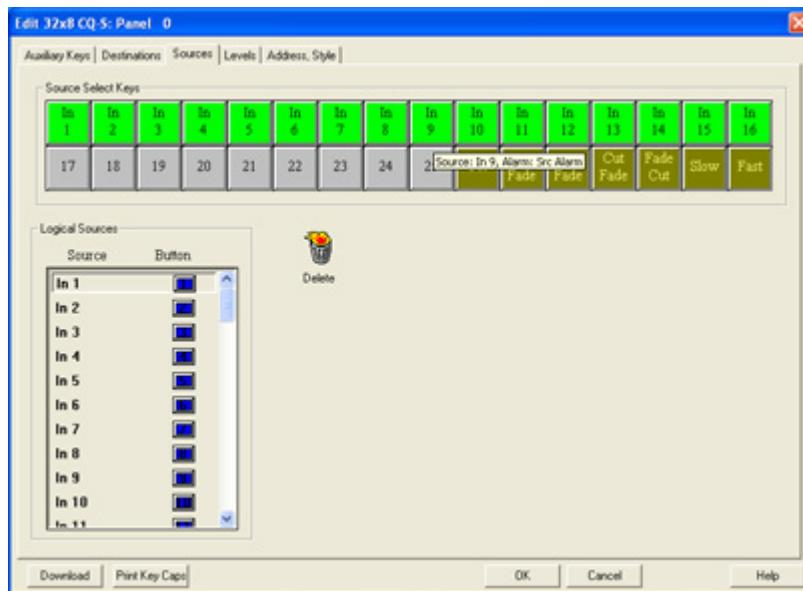

Figure 7 Sources Tab
- Select the Sources tab. Verify that the Source tab displays push button key information as shown in **Figure 7**.